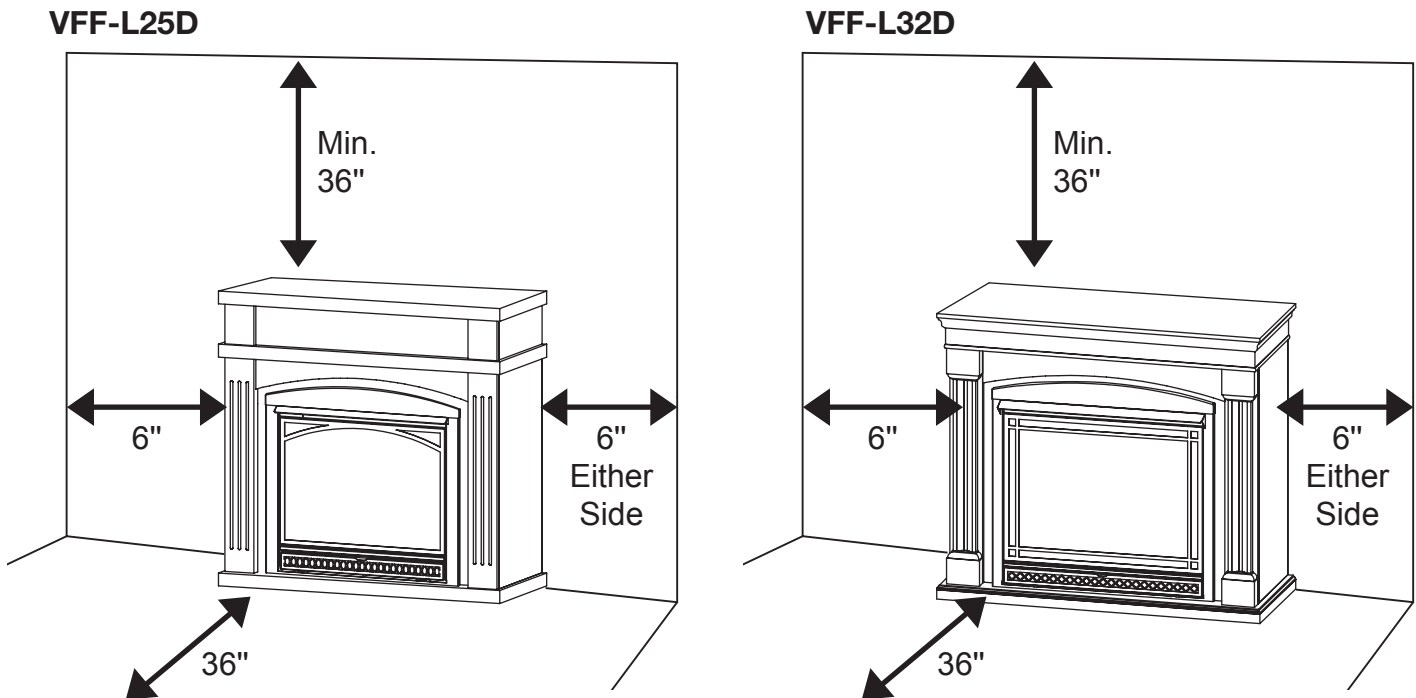

Fig. 6 - Minimum Clearance to Combustible Material
IMPORTANT: Maintain the minimum clearances shown in Figure 6 on page 14. If you can, provide greater clearances from floor, ceiling and joining wall.
A. Clearances from the side of the fireplace cabinet to any combustible material and wall should follow diagram in Figure 6.
The installer must supply an external regulator for liquid propane. The external regulator is provided by the gas supplier for natural gas. The external regulator will reduce incoming gas pressure. You must reduce incoming gas pressure to between 11 and 14 in. of water column for propane and between 6 and 14 in. of water column for natural gas. If you do not reduce incoming gas pressure, heater regulator damage could occur. Install external regulator with the vent pointing down as shown in Fig. 6. Pointing the vent down protects it from freezing rain or sleet.